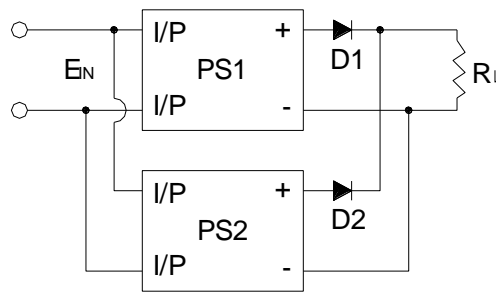

Figure 7.8: Paralleling by adding diodes in series connection
1. Add a diode at the positive-output of each power supply (as figure 7.8), the current rating of the diode should be larger than the maximum output current rating and attached to a suitable heat sink. This is only for redundant use (increase the reliability of the system) and users have to check suitability of the circuit by themselves.